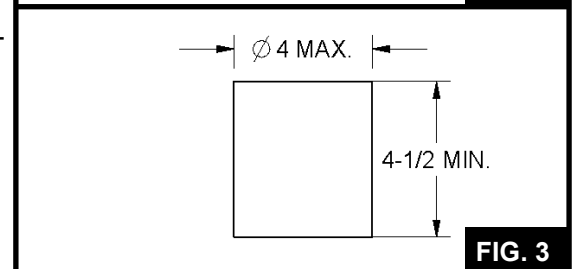

FIG. 3
- ◆ End Bushing Bar Pin Press Out Tool (**See FIG. 3**)